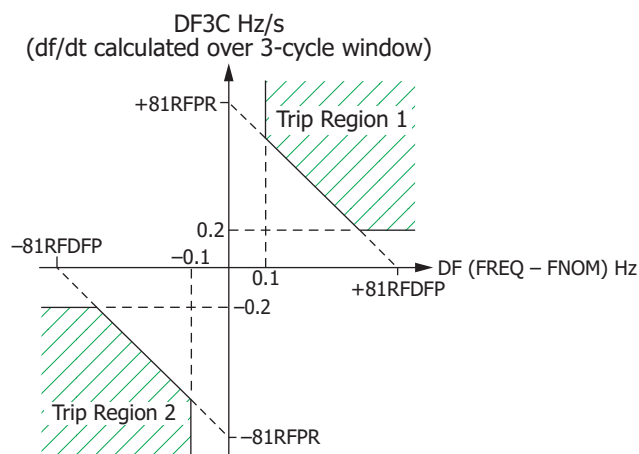

Figure 7 81RF Characteristic Power Element Protection
The fast rate-of-change-of-frequency protection, 81RF, provides a faster response compared to frequency (81) and rate-of-change-of-frequency (81R) elements. Fast operating speed makes the 81RF element suitable for detecting islanding conditions. The element uses a characteristic (see *Figure 7*) based on the frequency deviation from nominal frequency ($DF = \text{FREQ} - \text{FNOM}$) and the rate-of-change of frequency ($DF3C$) to detect islanding conditions.